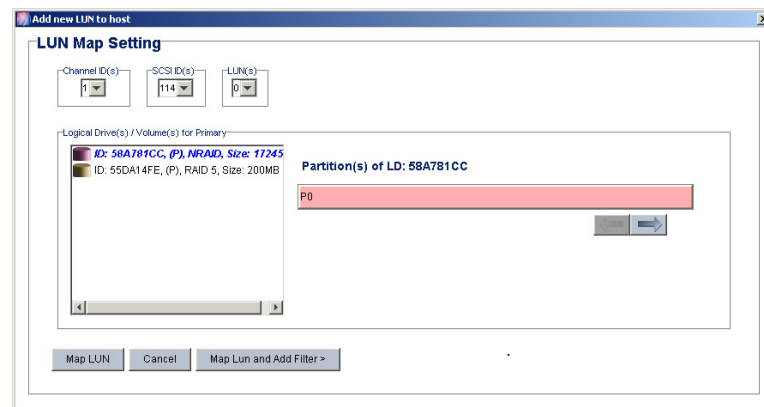

Figure 10-3: LUN Map Setting Window
Step 3. After selecting the ID, the **LUN Map Setting** window appears as shown in *Figure 10-3*.
Step 2. Follow the steps listed in *Section 10.1* above to access the *Host LUN Mapping* window shown in *Figure 10-3*.
-  **Step 2.** Follow the steps listed in *Section 10.1* above to access the *LUN Map Setting* window shown in *Figure 10-3*.